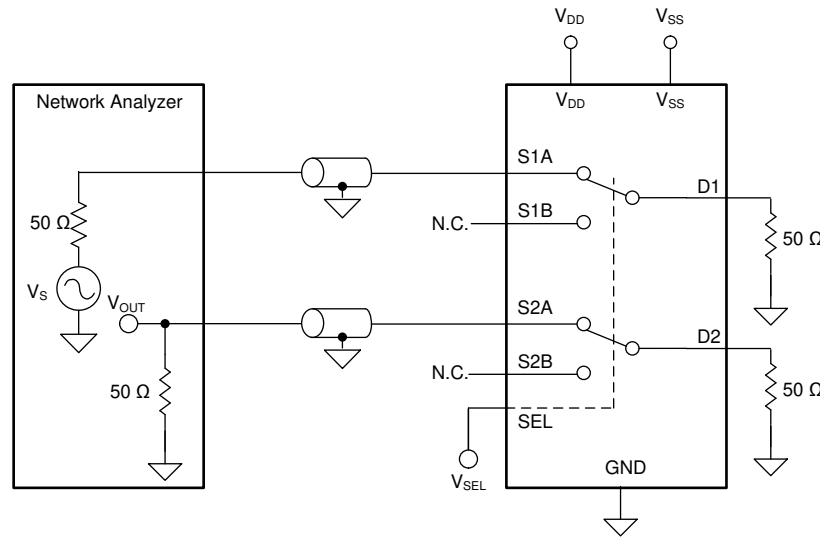

FIG 7-9. Inter-Channel Crosstalk Measurement Setup
2. Inter-channel crosstalk: the voltage at the source pin (Sx) of an on-switch input, when a 1-VRMS signal is applied at the source pin of an on-switch input in a different channel, as shown in FIG 7-9.